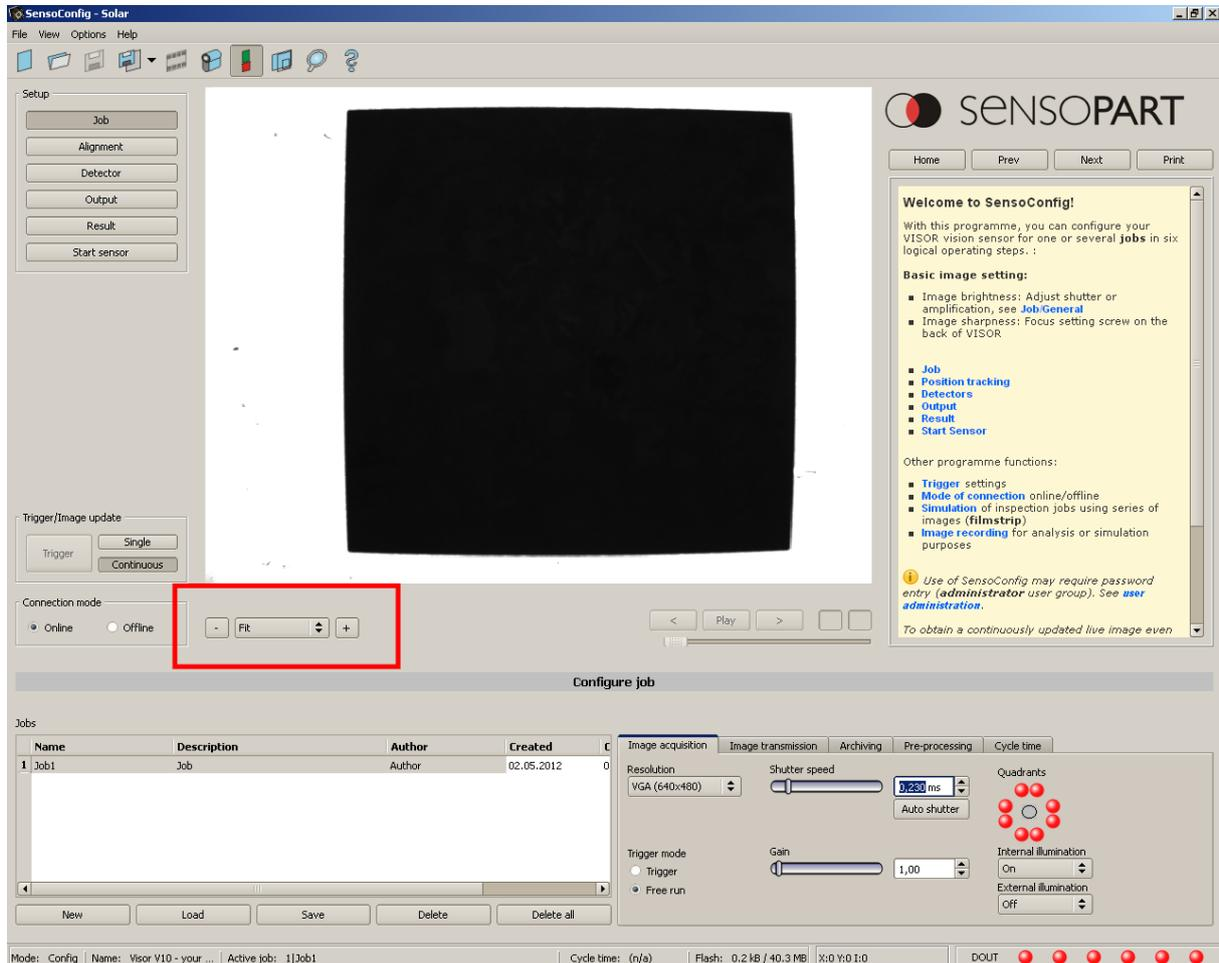

**Figure 22: Camera image with the correct perpendicular mounting of the sensor image**
- Then, adjust the sensor mechanically to move the centre of the bright spot into the centre of the field of view (which is marked with your cursor now). Then your image should look like *Figure 22*.